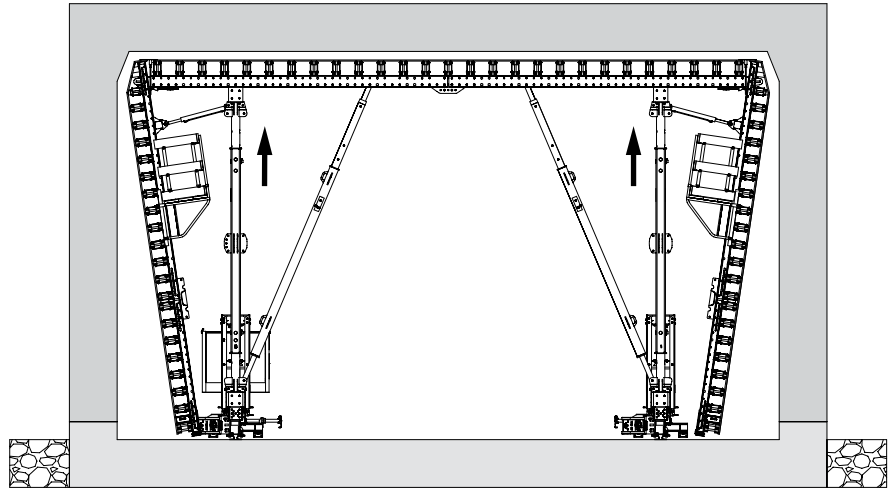

Fig. D2.05
5. Raise the Tunnel Formwork Carriage at the rear to the limit stop of the previous concreting section. (Fig. D2.05 + D2.06)
6. Support all Support Wedge Boxes (26) with a Wedge Lowering Device (41) and a Brace Support (40).
7. Extend the Wedge Lowering Devices (41) so that they can accommodate the weight of the Tunnel Formwork Carriage.